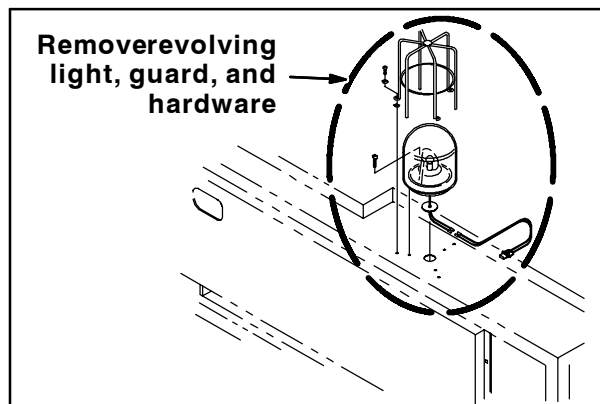

FIG. 11
16. Disconnect the hopper wire harness from the revolving light and remove the revolving light and guard from the hopper. Set the revolving light, guard, and all hardware aside. Refer to Fig. 11.